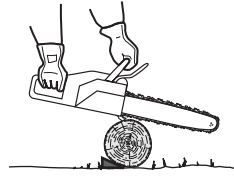

Fig. 48
- > If the wood diameter is large enough for you to insert a soft bucking wedge without touching the chain, you should use the wedge to hold the cut open to prevent pinching (Fig. 48).